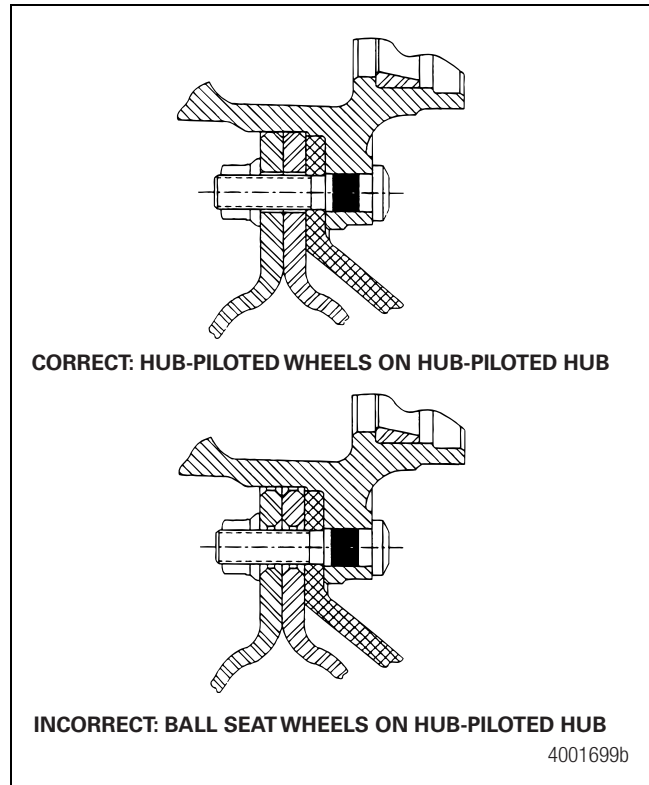

Figure 5.12
11. Follow the disc wheel manufacturer's fastener tightening sequence when you install fasteners to help ensure a higher and more uniform clamp load. Figure 5.12. Always check fasteners at the wheel manufacturer's recommended service intervals.